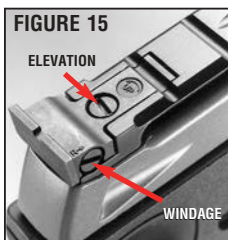

FIGURE 15
- The rear sight (FIGURE 15) is fully adjustable for both windage and elevation. The top screw controls the elevation and each click raises or lowers the point of impact at the target. The windage adjustment screw, located on the right side of the body, controls the windage and each click moves the point of impact right or left at the target.